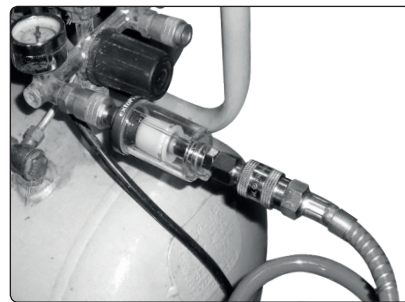

Fig. 8, filter connection (separator) Extol® 8865101
**Fitting the filter with quick coupler fittings for connection at the air outlet from the compressor and connection to an air hose (fig. 8).**